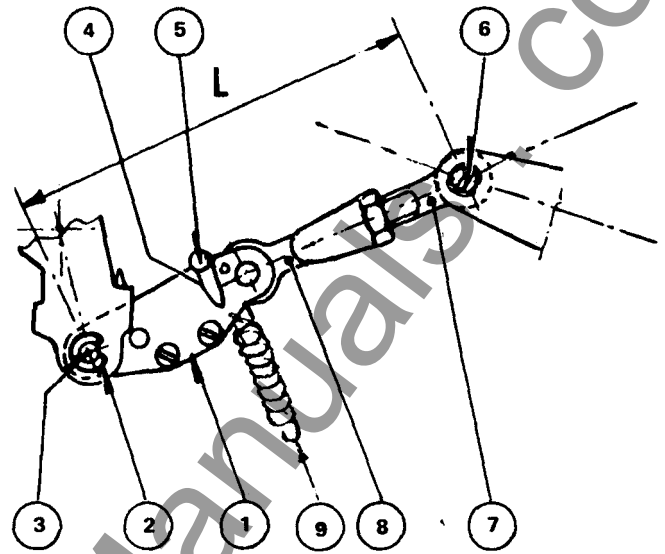

Figure 10
Fitting, Replacement and Adjustment of the Trip Latch (Fig. 10).
- Charge the closing springs until the Trip Linkage system latches in the position shown, Fig. 10.
- Remove the split washer (2) and slip out the pin (3).
- Lift the lever (4) by operating on latch (5).
- Remove the clips and washers from pin (6).
- Disengage the trace reset springs (9).